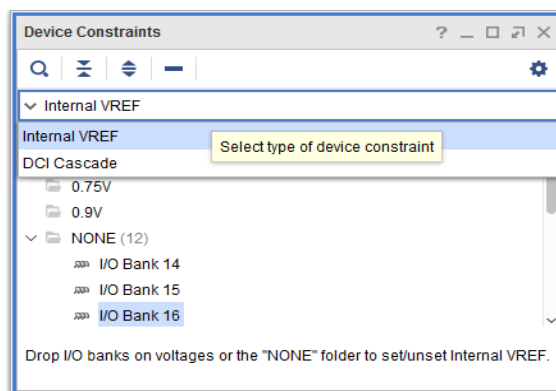

Figure 2-4: DCI Cascade Drop-Down Menu
1. In the Device Constraints window, select **DCI Cascade** from the drop-down list at the top of the window (Figure 2-4).